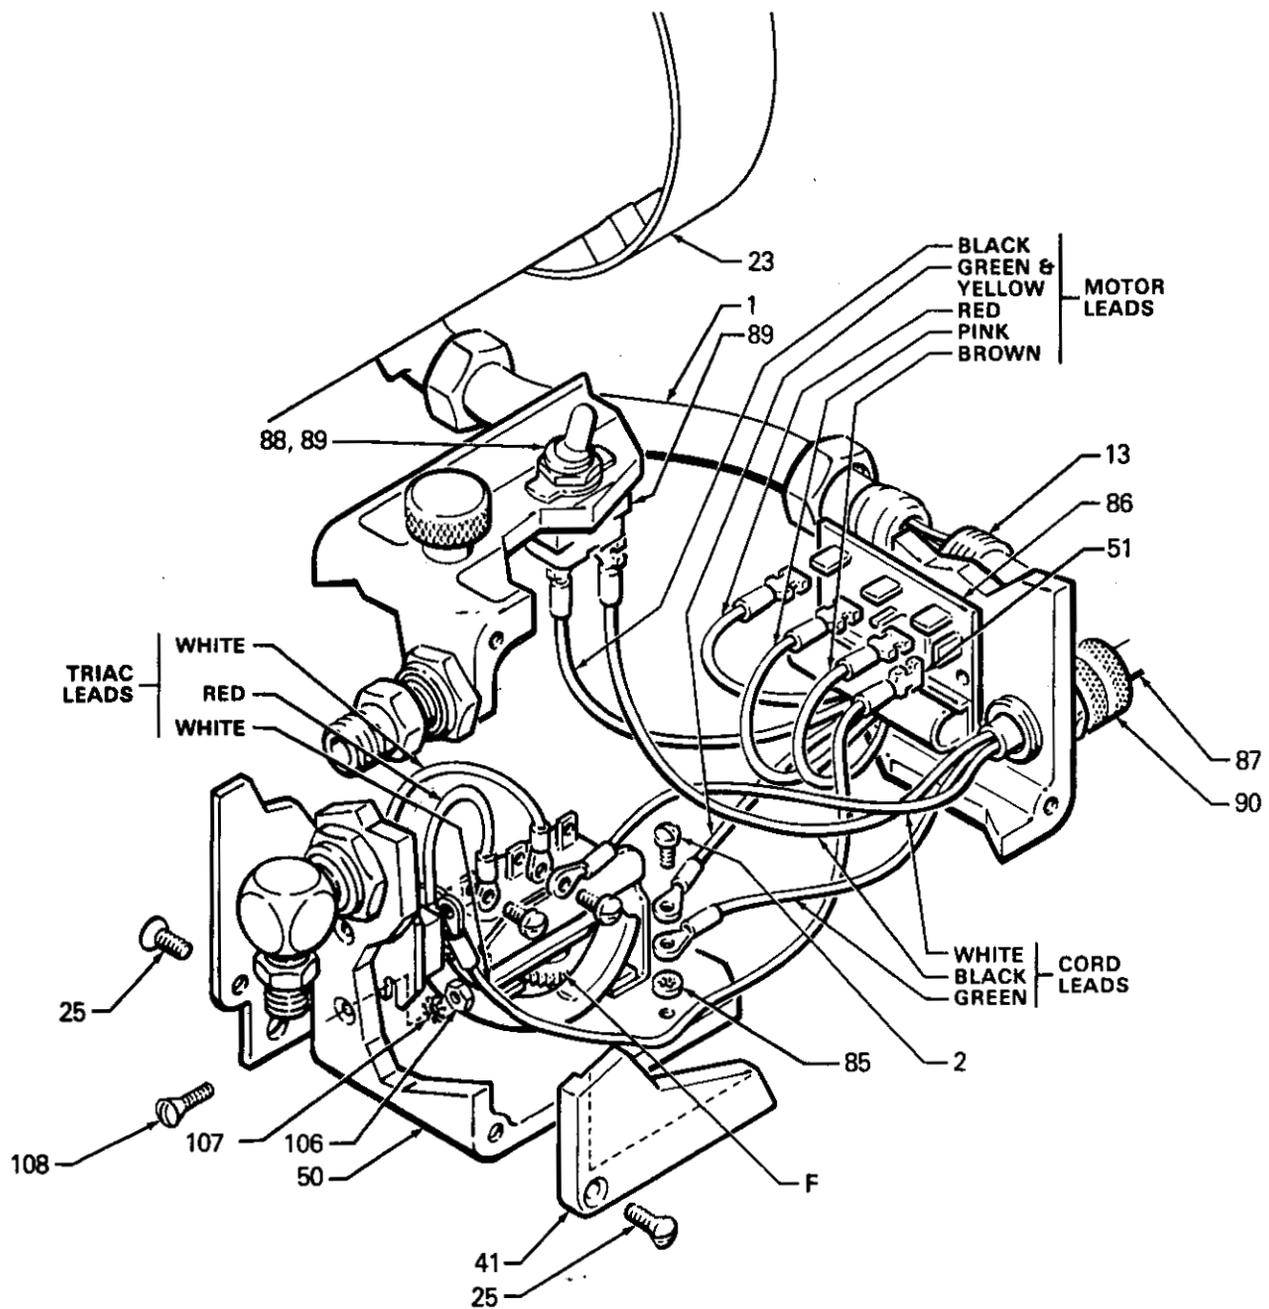

Fig 24
Remove screws (25) and cover (41) from pressure control (50). See Fig 24.
Disconnect red, pink and brown motor leads from circuit board (86). Disconnect green and yellow motor lead from grounding screw (2), and black motor lead from toggle switch (89). See Fig 24.
Unscrew nut on end of conduit (1) from connector (13). See Fig 24. Pull pressure control (50) away from conduit while carefully guiding wires through connector (13).
Loosen knurled part of power cord strain relief (90), and unscrew it from pressure control. Slide strain relief up on power cord to provide clearance, and unscrew conduit connector (13). See Fig 24.
If only the circuit board (86) needs to be replaced in the pressure control, remove the screws (25) and the front cover (41). See Fig 24. Pull the board out carefully, just far enough to reach the wire terminals. Unsnap the wires and finish removing the board.
Position the new card at the control so the wire connectors are at the top. Following the color coded diagram in Fig 24, snap the wires onto the board. Carefully guide the wires back into the control, making sure they don't catch on anything, then slide the new board into place. Check the pressure control calibration. See page 22.